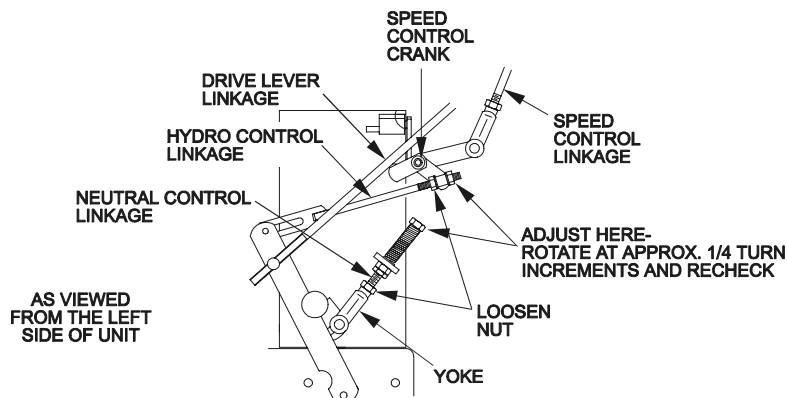
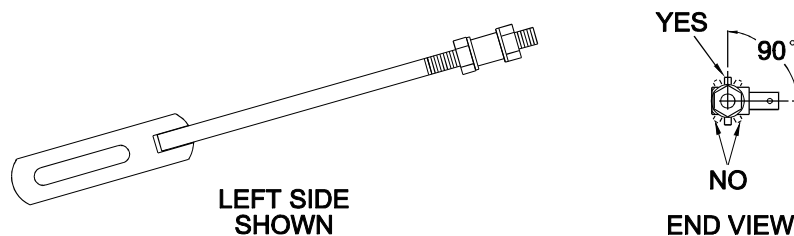

FIGURE 9
FIGURE 10
4. Loosen the nut against the neutral control linkage yoke (See Figure 9).
2. Loosen the front nut on **left** hydro control linkage as shown in Figure 9. Turn the rear control linkage adjusting nut counter-clockwise until wheel rotates forward. Turn the rear nut of left control link clockwise 1/4 of a turn at a time, stopping to move the speed control forward and back to neutral, until left wheel stops rotating forward. Turn the rear nut an additional 1/2 turn and tighten the front nut making sure not to put a bind on the linkage. Make sure flat part of linkage is perpendicular to pin part of swivel (See Figure 10).